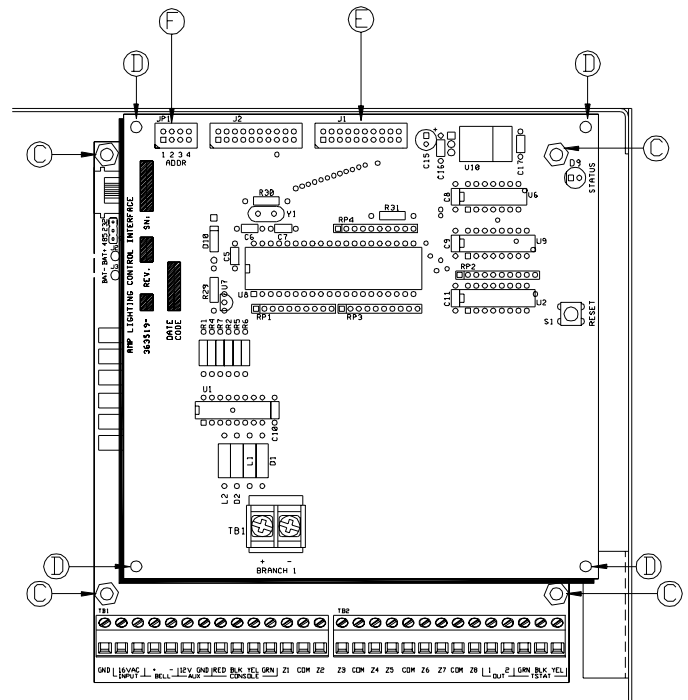

FIGURE 2
5. Connect opposite end of supplied cable to 20-pin connector J1 on the ALC Interface marked "E" in Figure 2.
6. Be sure that the address jumper is in the correct position (corresponding with Expansion "Module Type" configured in controller), as shown in Figure 2 marked "F".
1. Remove each 6-32 x 1/4 Phillips screw marked "A" in Figure 1. As each screw is removed, replace with supplied 6-32 x 3/4 male/female Hex spacers marked "C" in Figure 2. Retain screws for future step.